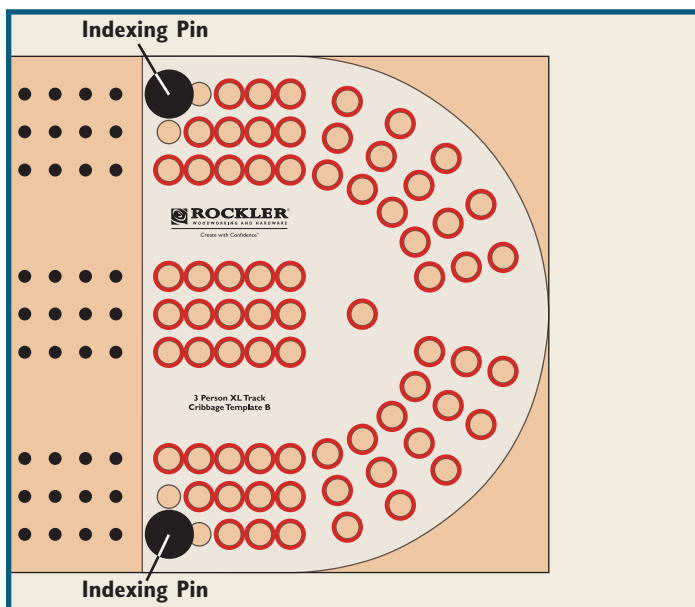

Fig. 6
8. Install the Rounded Template so that its two rearmost outside holes are over the most recently drilled indexing holes. Press the Indexing Pins in these holes to hold the template; then drill the holes outlined in red in **Fig. 6**.